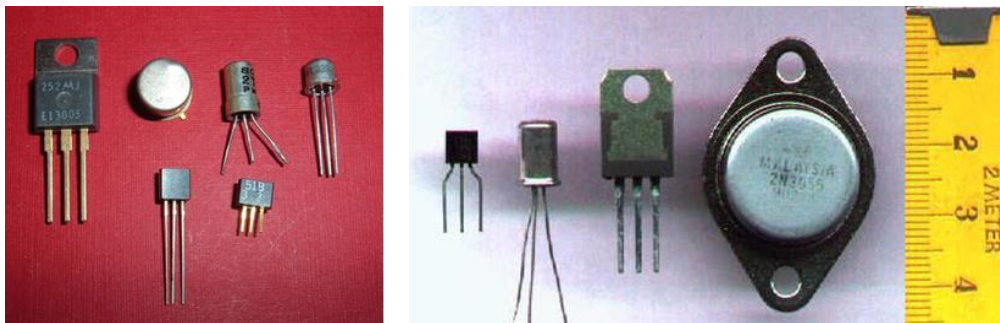

Figure 3.1 Diodes Package
- Typical packaging for BJT is as shown in Figure 3.1.